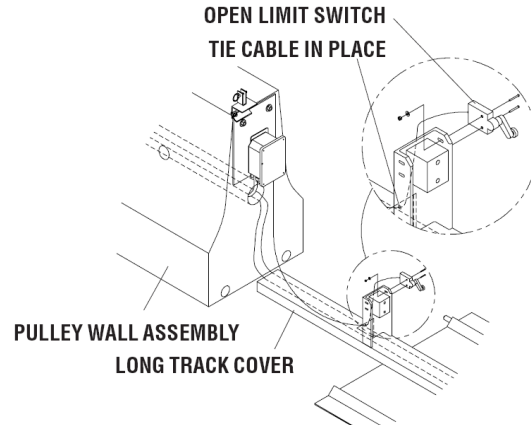

Figure 13
3) Attach the open limit switch to the track cover (Figure 13).